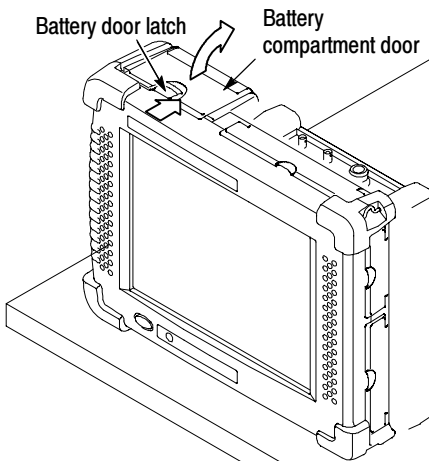

Figure 1-4: NetTek Analyzer Platform battery compartment
1. Place the NetTek Analyzer Platform on a flat surface with the touch-screen display facing towards you. See Figure 1-4.